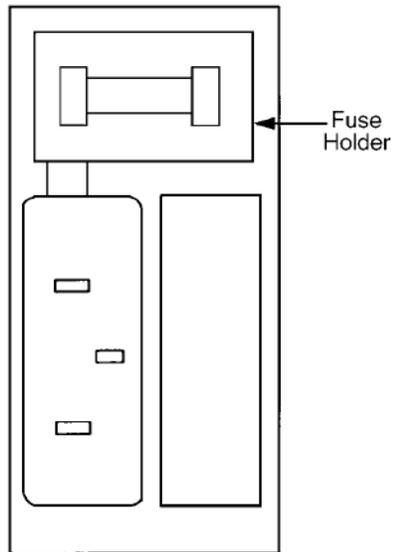

Figure 3-1 Power Entry Module
3. Slide the small fuse board out of the holder by lifting the black plastic retainer (Figure 3-1).